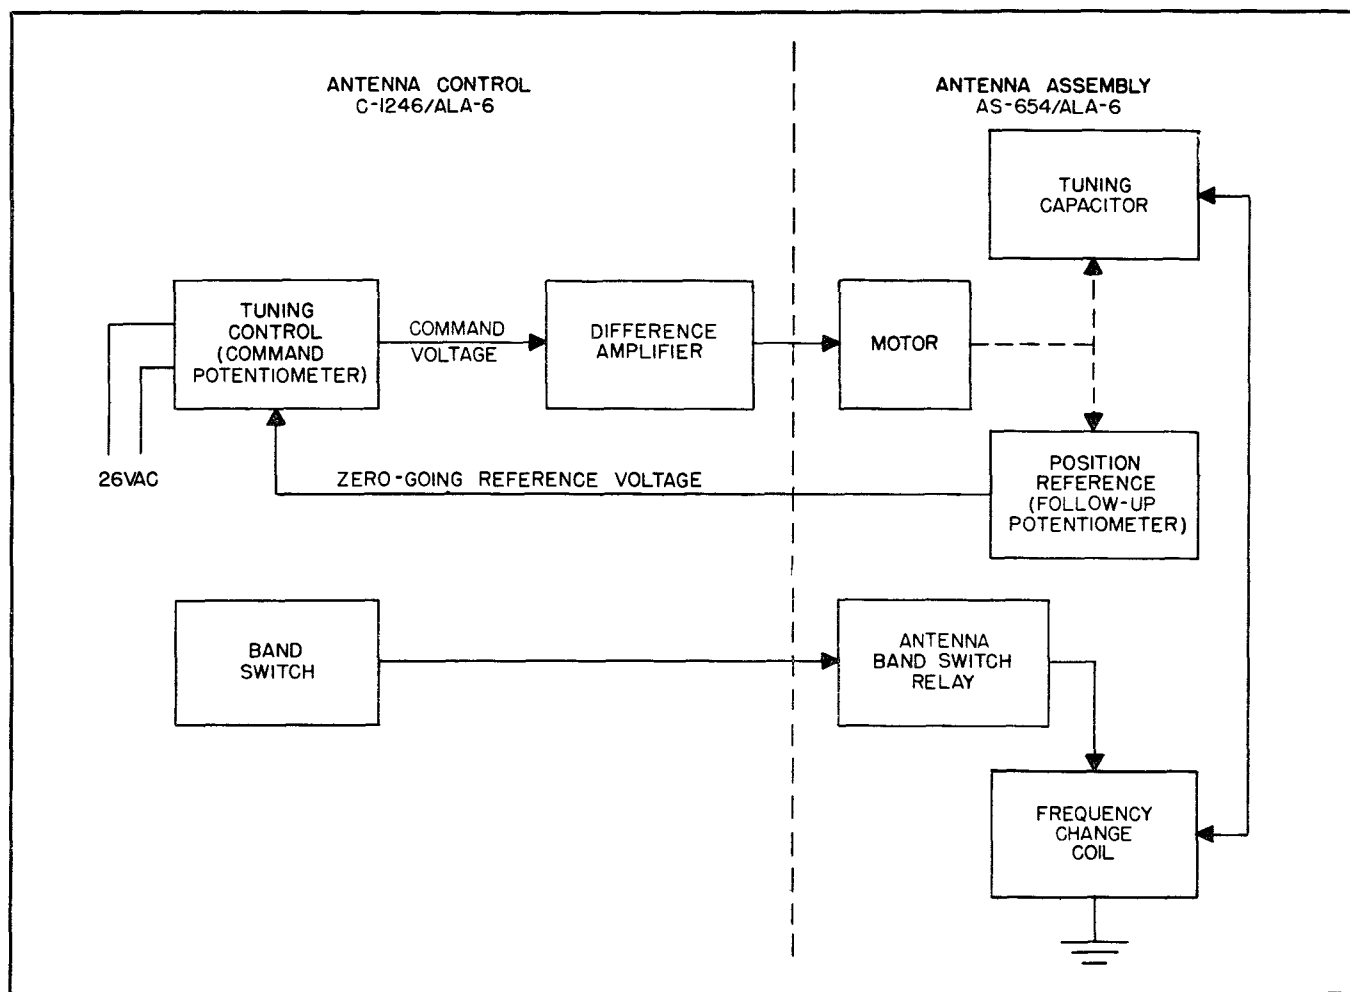

Figure 4-24. Antenna Tuning Servo Control System, Functional Block Diagram
c. Antenna Control Circuitry (Figure 4-24).
4-127. ANTENNA CONTROL CIRCUITRY. (Figures 4-24 and 7-5.)